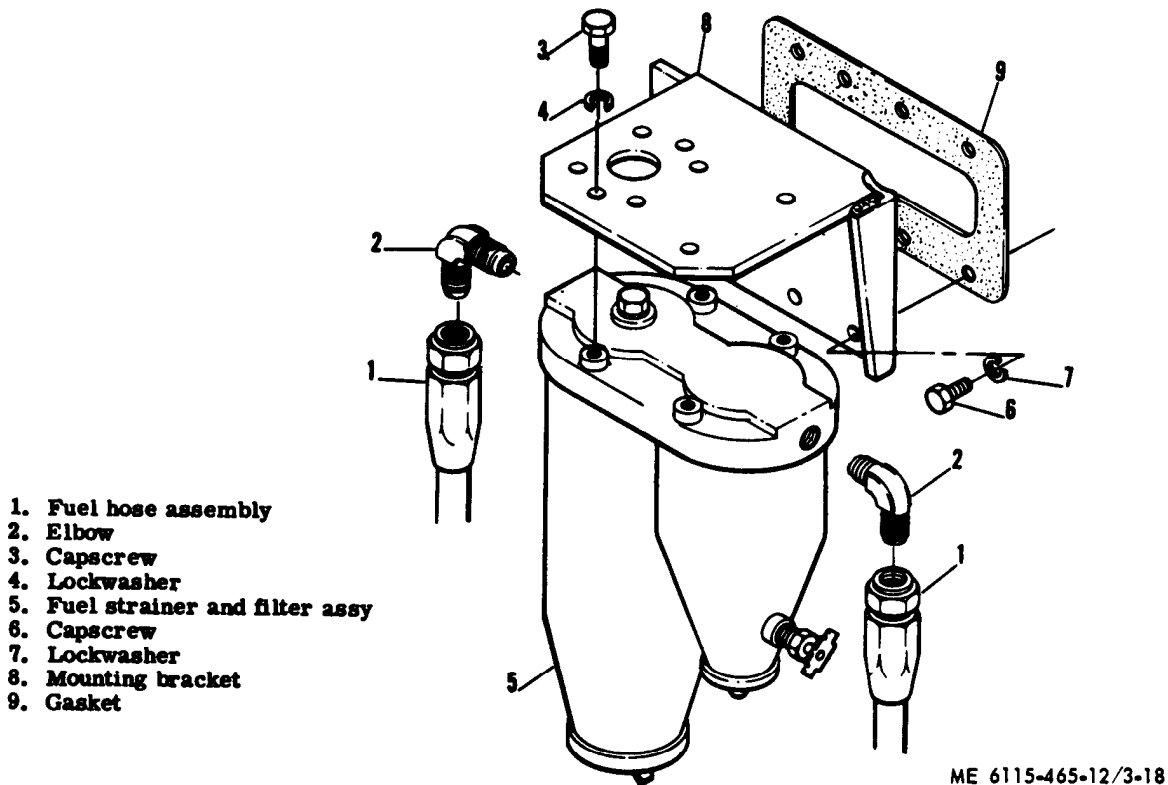

Figure 3-18. Fuel Strainer and filter assembly, Removal and Installation.
(1) Refer to paragraph 3-26 and drain the fuel from the strainer and filter housings.
(2) Disconnect fuel hoses (1, figure 3-18) and remove elbows (2).